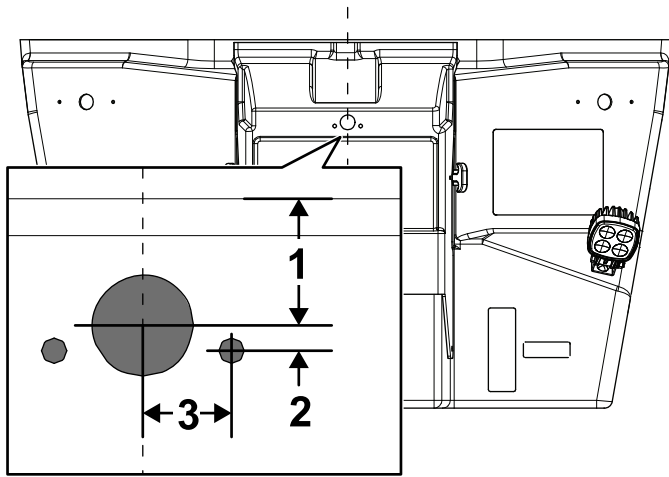

Figure 6
- Mark and drill 2 holes (1/4 inch) in the rear cover using the measurements in Figure 6.